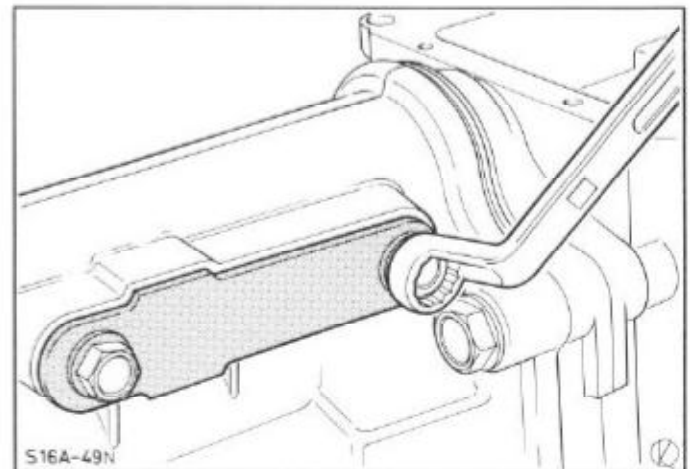

Fig.117. Remove 5th gear lock plate and locking pin with spring from extension housing.
7. Remove 5th gear locking plate and locking pin with spring from extension housing, Fig.117.